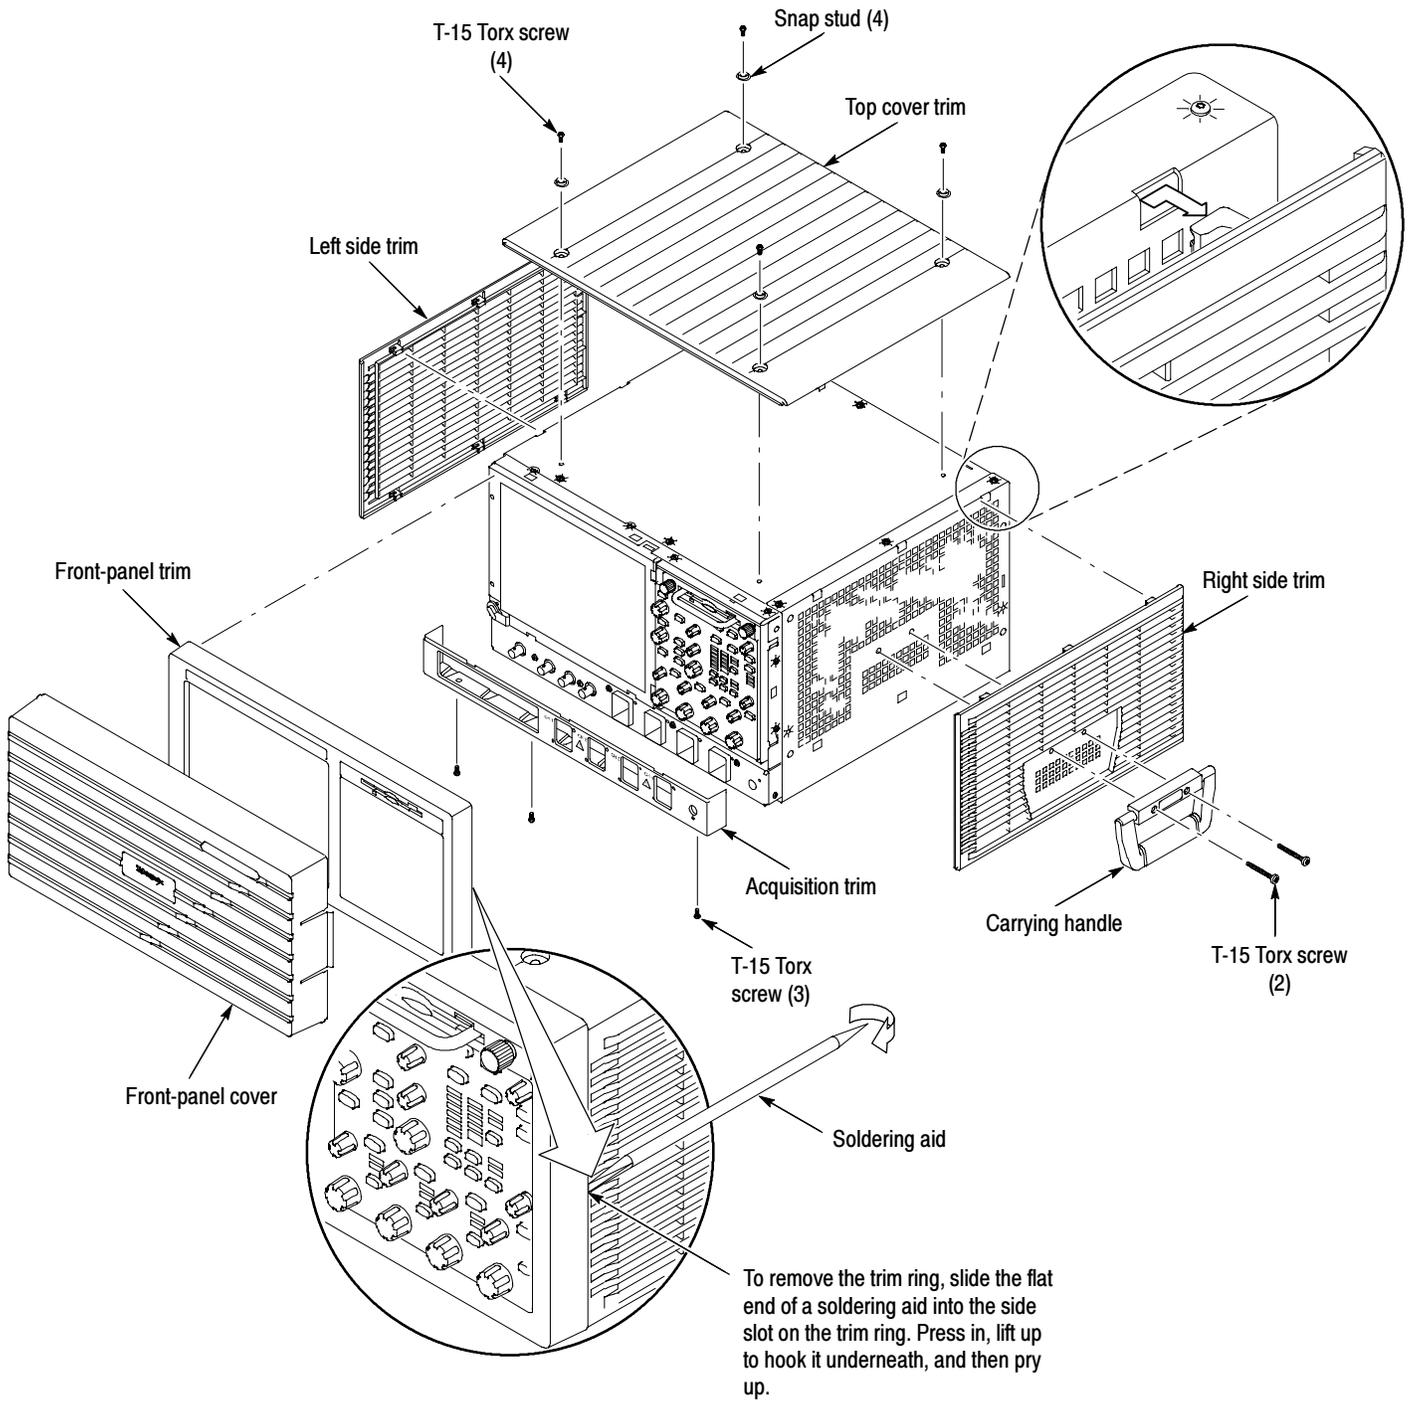

Figure 2-2: Trim removal
1. *Locate module to be removed:* Locate the Trim in the locator diagram. See Figure 2-2 on page 2-4.
2. *Remove the front-panel trim:* Use Figure 2-2 on page 2-4 as a guide.